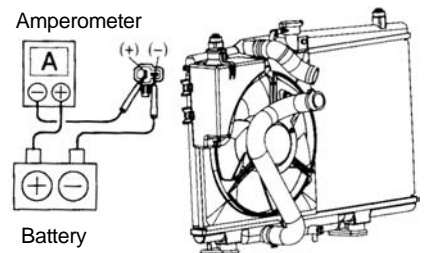

Figure 124
- (3) Check the cooling fan. See (Figure 124)